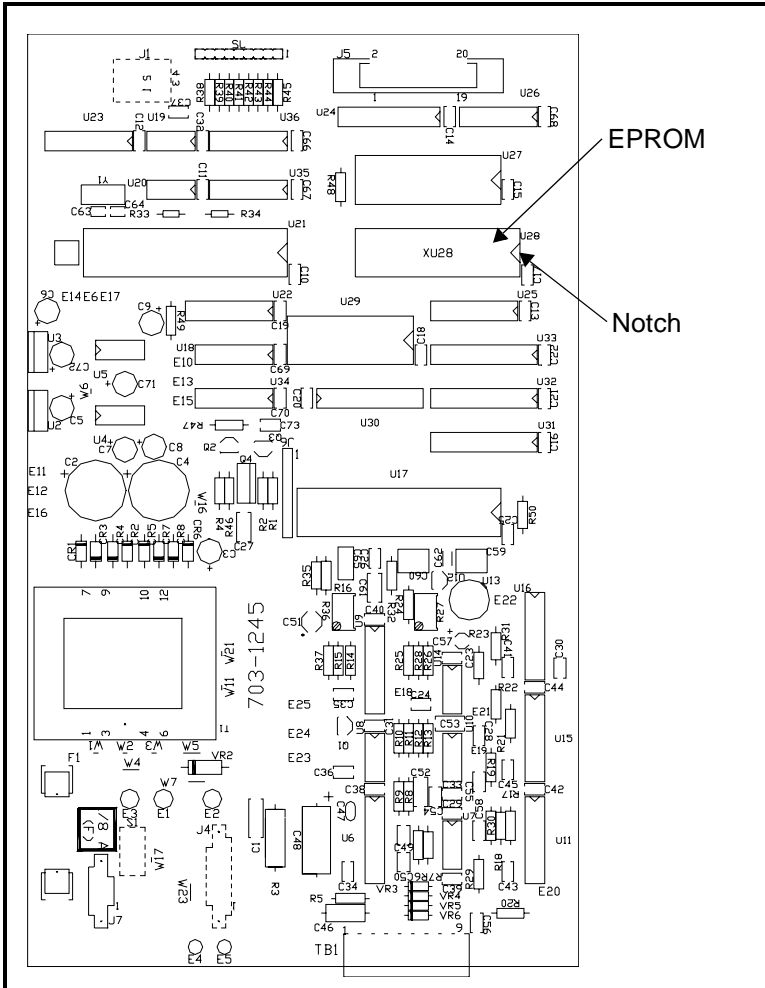

Figure 4-3: EPROM and Notch on 703-1245
1. Refer to Figure 4-3 on page 4-10 to locate the EPROM (labeled U28) on the #703-1245 circuit board.
3. Place the new EPROM in the socket labeled U28, making sure the notch on the EPROM matches the notch on the socket (see Figure 4-3 on page 4-10).